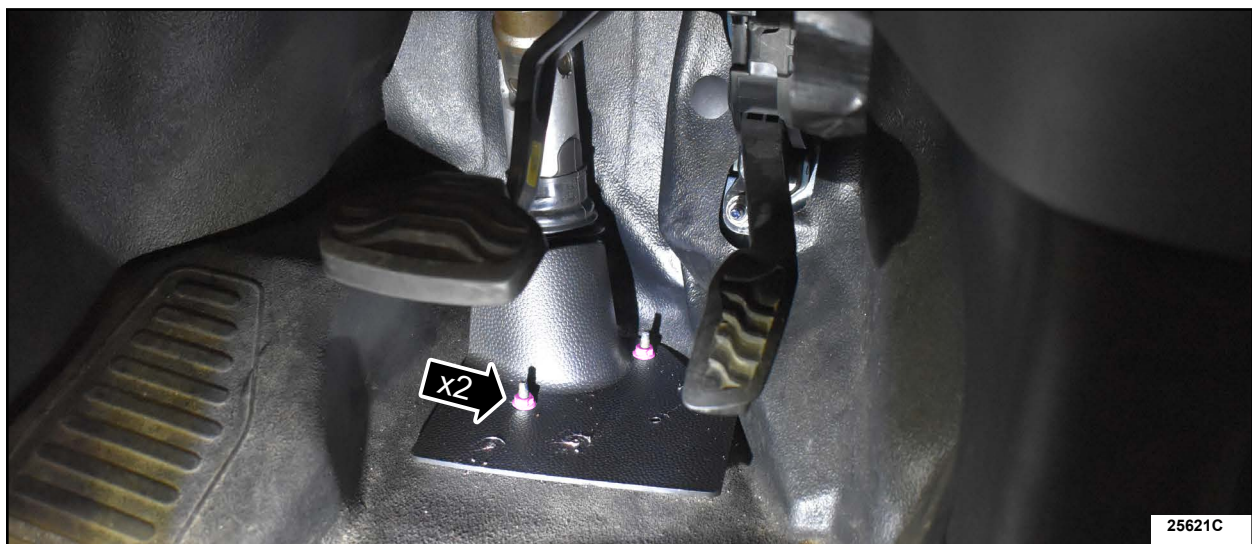

FIGURE 19
- Remove the two (2) remaining retainers holding down the steering column shaft protective shield. See Figure 19.